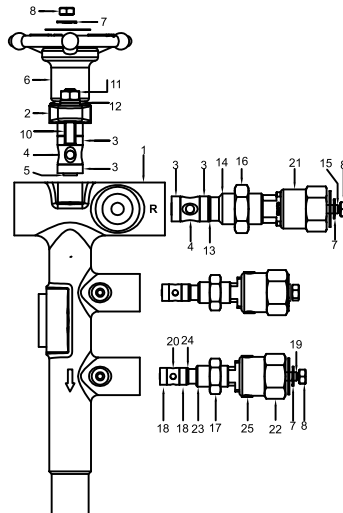

Figure 2: Exploded view of Forbes Marshall Pipeline connector with (Dv1, DV2 and DV3)
4. Operation: [Refer figure 2]